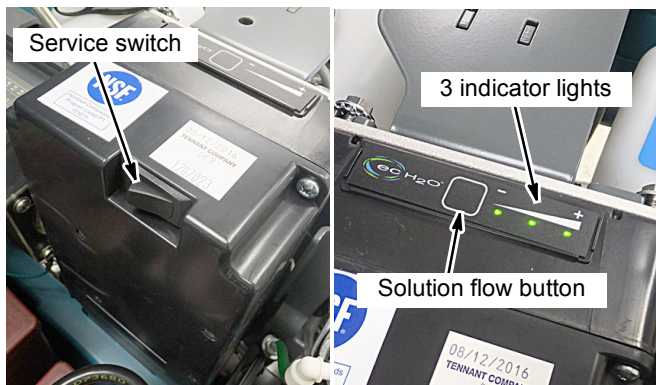

FIG. 153
- b. Press and hold the service switch, located on the ec-H₂O module, for 10 seconds. After releasing service switch, the three solution flow indicator lights will begin to (ripple) move back and forth (Figure 153).
- c. Within 5 seconds after releasing the service switch, while the three indicator lights are moving back and forth, quickly press and release the solution flow button located on ec-H₂O module (Figure 153). The three indicator lights will then blink three times to indicate timer has been reset. Repeat process if the three indicator lights do not blink three times.